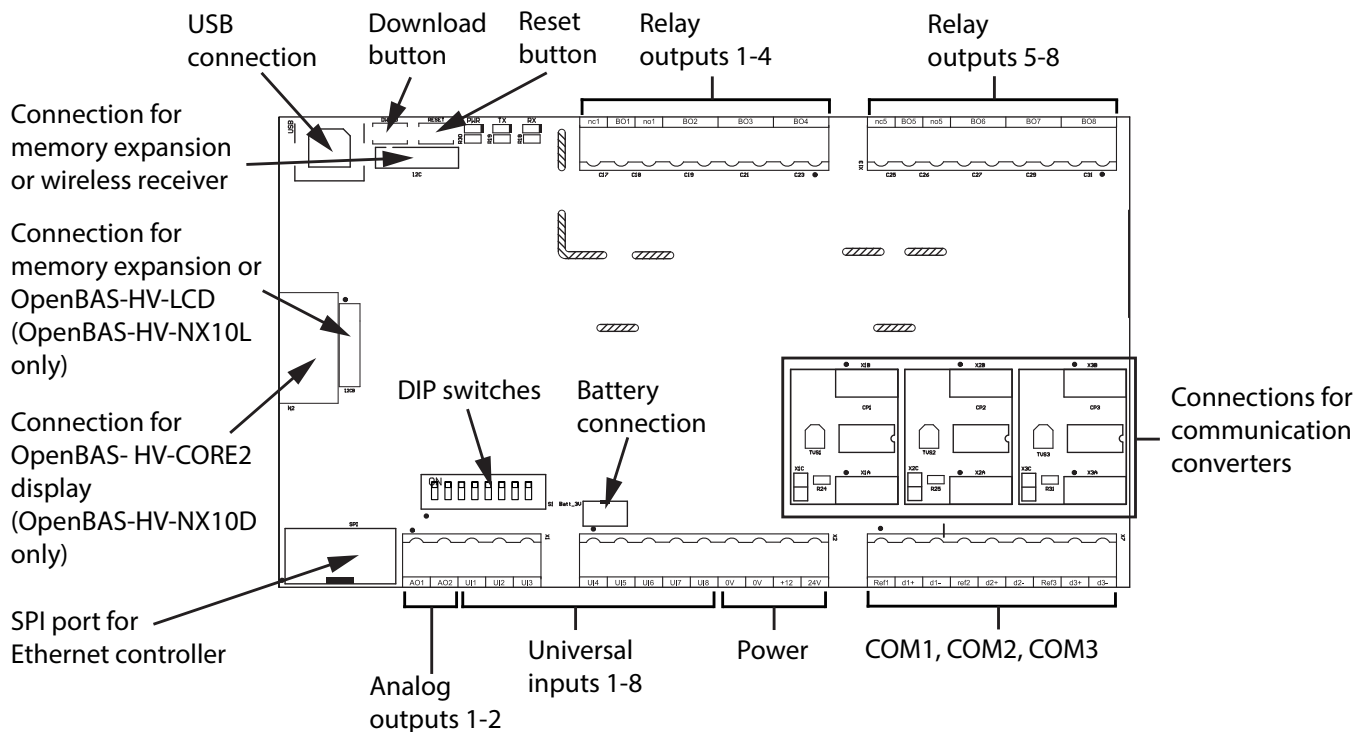

Figure 4 Board connections
The full speed USB 2.0 connection is shown in Figure 4. Connect a computer to this port in order to configure the controller.
6. Connect the new battery to the connection shown in Figure 4. The battery wire can be connected only one way.
Figure 4 on page 13 shows the location of the terminals. The terminals are depluggable for ease of wiring.